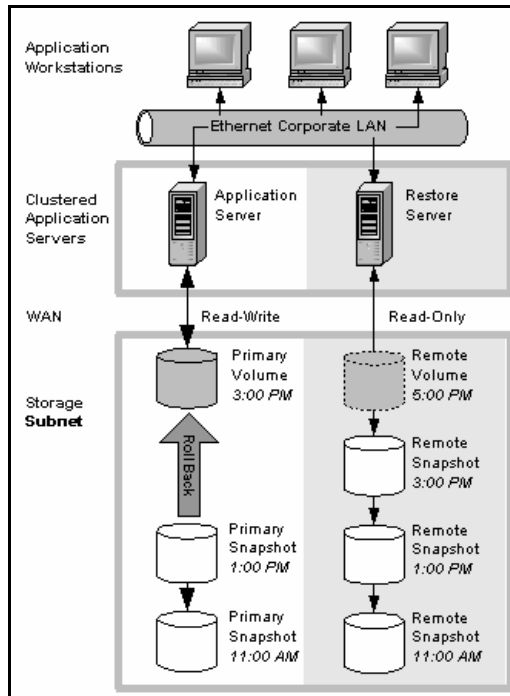

Figure 266. Non-destructive Rollback from the Primary Snapshot
- When you roll back the primary snapshot to a primary volume, any applications accessing the primary volume will no longer have access to the most current data (as the primary volume has been rolled back to a previous state). If the primary volume must be synchronized with other volumes accessed by the same application, consider rolling back the remote volume instead. Figure 266 shows rollback of the primary snapshot while leaving the remote snapshots intact.